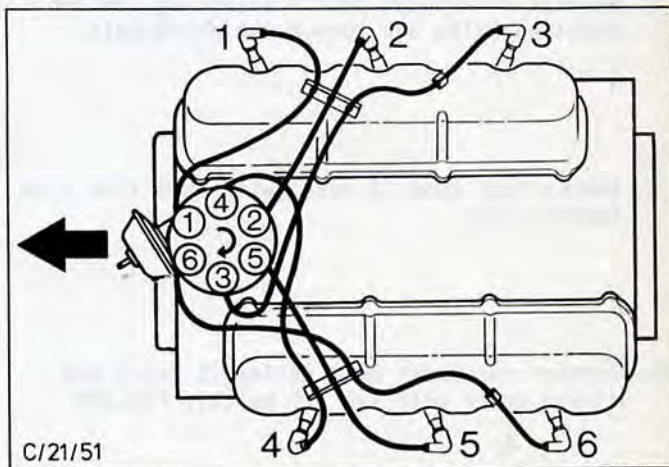

Fig.105. Arrangement of HT leads - (firing order).
13. Fit distributor cap and reconnect HT leads, Fig.105. Fit air cleaner and reconnect battery earth strap.